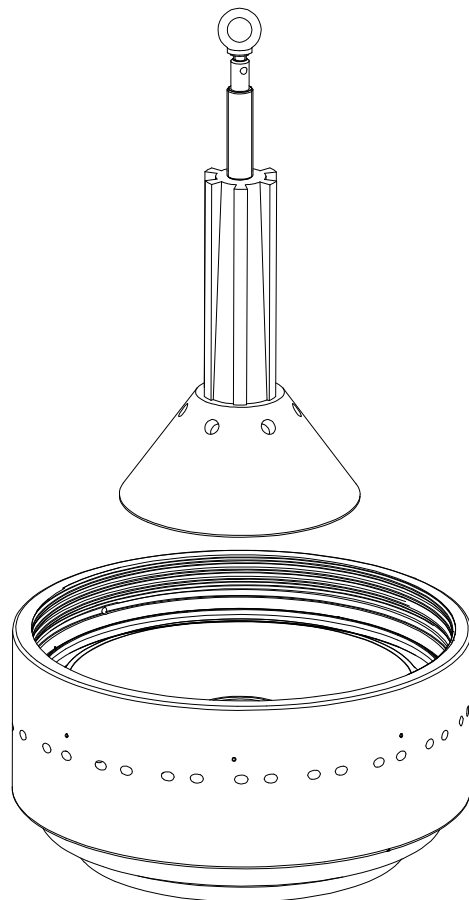

Figure 6.9
- 7) By the spanner (09.060.0), screwed in the threaded hole present on the upper edge of the **distributor**, lift the piece and place it down on his seat (fig. 6.9). Over the distributor is marked a big "0" that must be aligned with "0" marks of the bowl body and moving ram. Check the guide pins on the bowl body correctly rest on the suitable seat under the distributor so that the whole piece is uniformly resting on the bowl body.